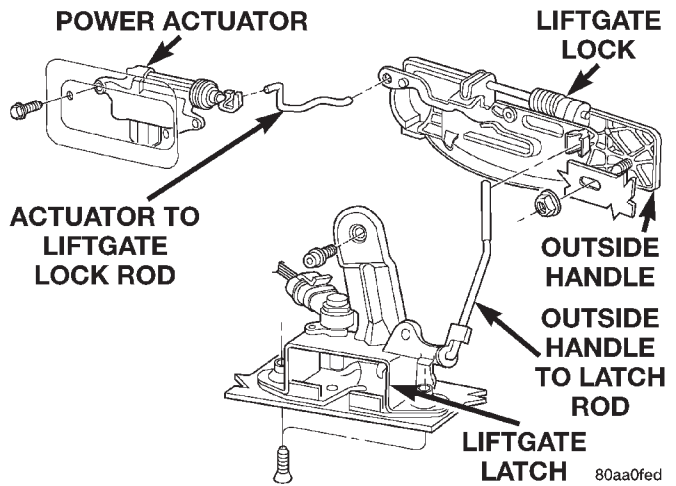
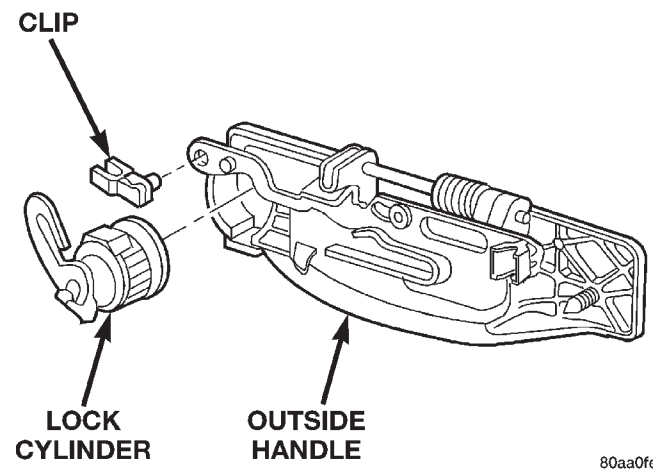

Fig. 91 Liftgate Outside Handle
Fig. 92 Liftgate Lock Cylinder
- (1) Remove liftgate trim panel.
- (2) Disconnect liftgate actuator linkages.
- (3) Disconnect liftgate outside handle to latch rod.
- (4) Remove nut attaching outside handle to liftgate (Fig. 91).
- (5) Separate outside handle from liftgate.
- (6) If necessary, remove lock cylinder (Fig. 92).